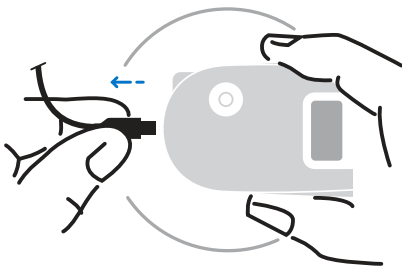

fig.6
- 2 Hold the driver in one hand and the actuator cable plug in the other hand and pull apart. (*fig.6*)